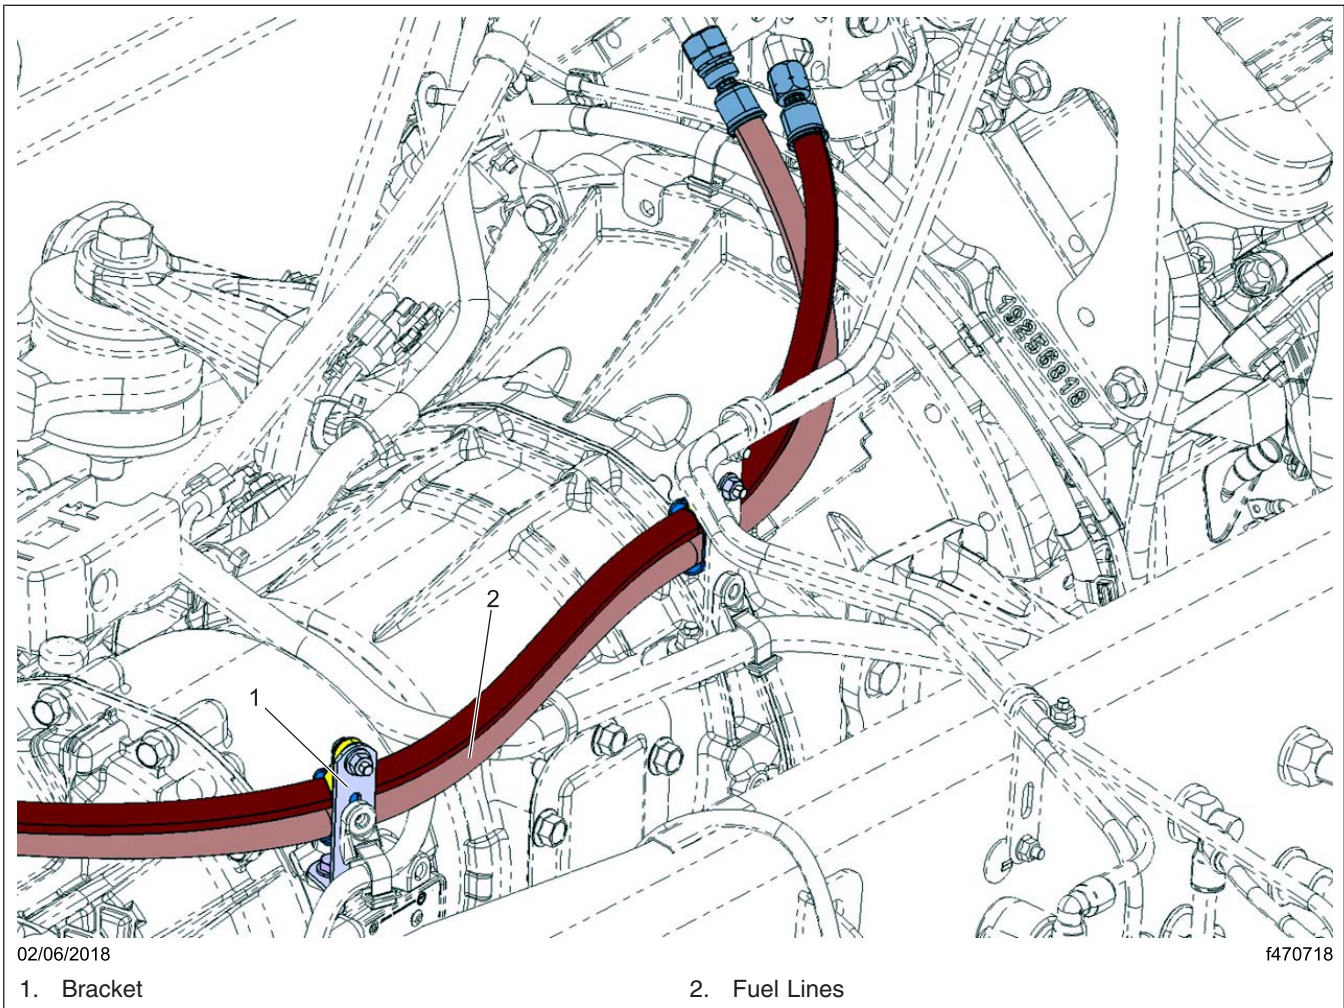

Fig. 1, Fuel Line Routing at the Transmission
1. Cut the tie band attaching the hoses to the bracket at the rear of the transmission. See Fig. 1.